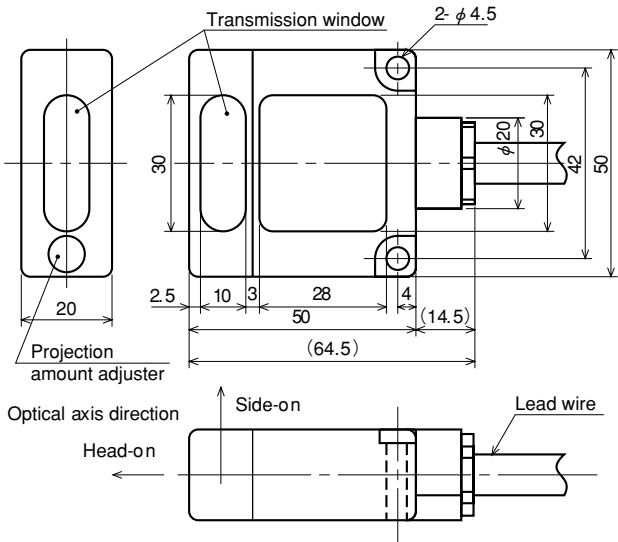

Fig. 1
(1) Please prohibit from using at places:-
(2) Installation
- Dimension is as per Fig. 1.